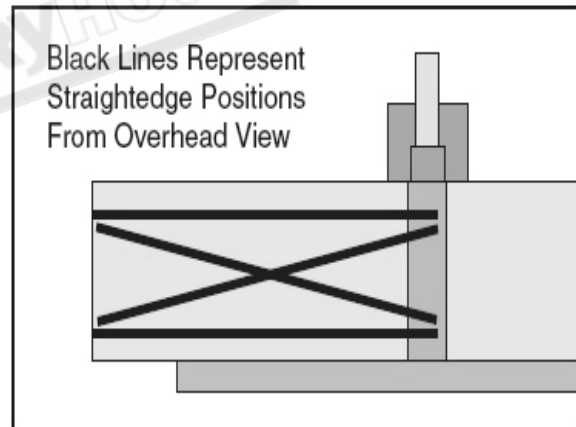

Figure 31. Straightedge positions for verifying if outfeed table is parallel with cutterhead.
3. Place the straightedge on the outfeed table so it hangs over the cutterhead in one of the positions shown in **Figure 31**.
5. Continue placing the straightedge in the remaining positions shown in **Figure 31**. In each position, the feeler gauge measurement should be nearly identical. If the outfeed table height above the cutterhead is equal across the table in each position, then the outfeed table is already parallel with the cutterhead. Go to **Checking Infeed Table Parallelism**, on **Page 22**.